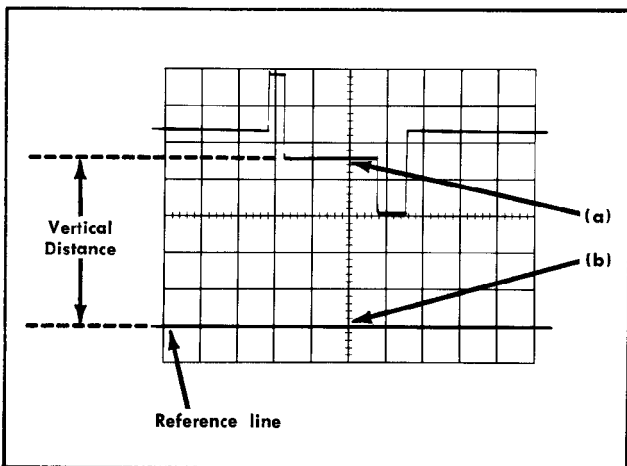

Fig. 2-2. Measuring instantaneous dc voltage with respect to a reference.
9. Measure the distance in divisions between the ground reference line established in step 6 and the point on the waveform to be measured. For example, in Fig. 2-2 the measurement is made between points (a) and (b).
As an example of this method of measurement, assume that the vertical distance is 4.6 divisions (see Fig. 2-2), INV (CH 1) NORM switch set to INV, using a 10X probe and a VOLTS/DIV setting of 2.